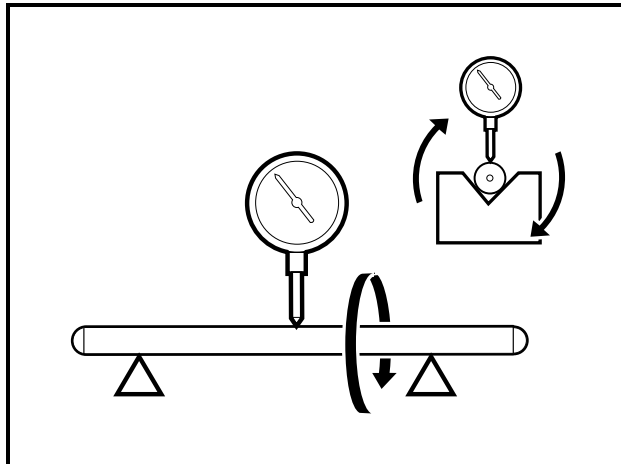

Figure 3-30 Measure Push Rod Bend
1. Support the rod in V blocks at each end of the rod. Position a dial gauge perpendicular to the rod (**Figure 3-30, Page 3-16**).